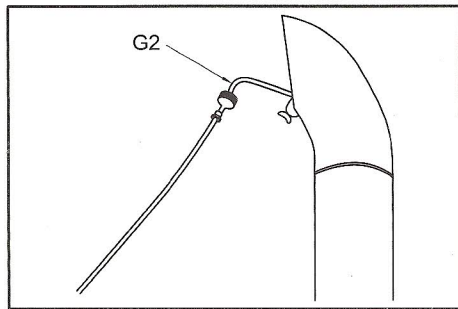

Fig. 05-05
(2) Measure with smoke-tester G2 (Please see Fig. 05-05, 05-06)